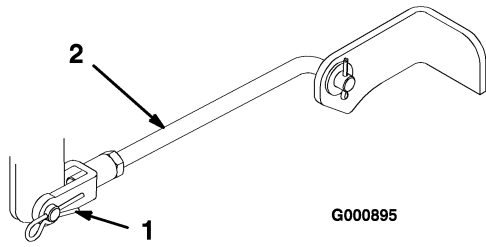

Figure 48
- Remove the hairpin cotter and clevis pin from the front trunion yokes (Figure 48).
8. Attach the front trunion rods to the tractor with the clevis pins and hairpin cotters (Figure 48).